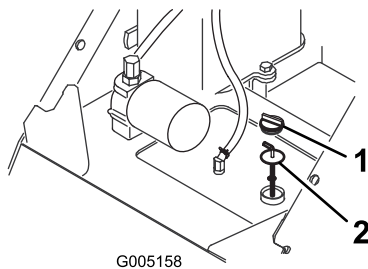

Figure 8
- Clean the area around the filler neck of the hydraulic tank (Figure 8).
- Remove the cap from the filler neck and check the fluid level on the dipstick (Figure 8).